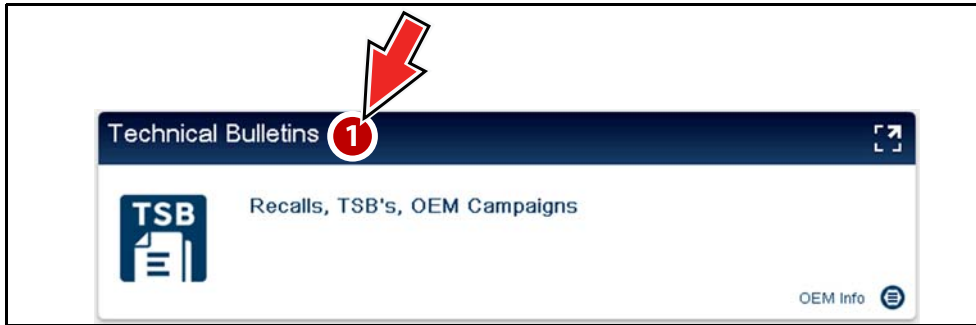

Figure 8-6 Technical Bulletins card
The Technical Bulletins card (*Figure 8-6*) provides a quick link to OEM Recall, TSB and Campaign information that may be available for the selected code.
- A red icon (*Figure 8-6*) indicates the total number of Recalls, TSBs, and OEM Campaigns that have been found.
Selecting the Technical Bulletins card (*Figure 8-6*) provides a detailed list view of the available OEM Recalls, TSBs, and Campaigns (*Figure 8-7*).